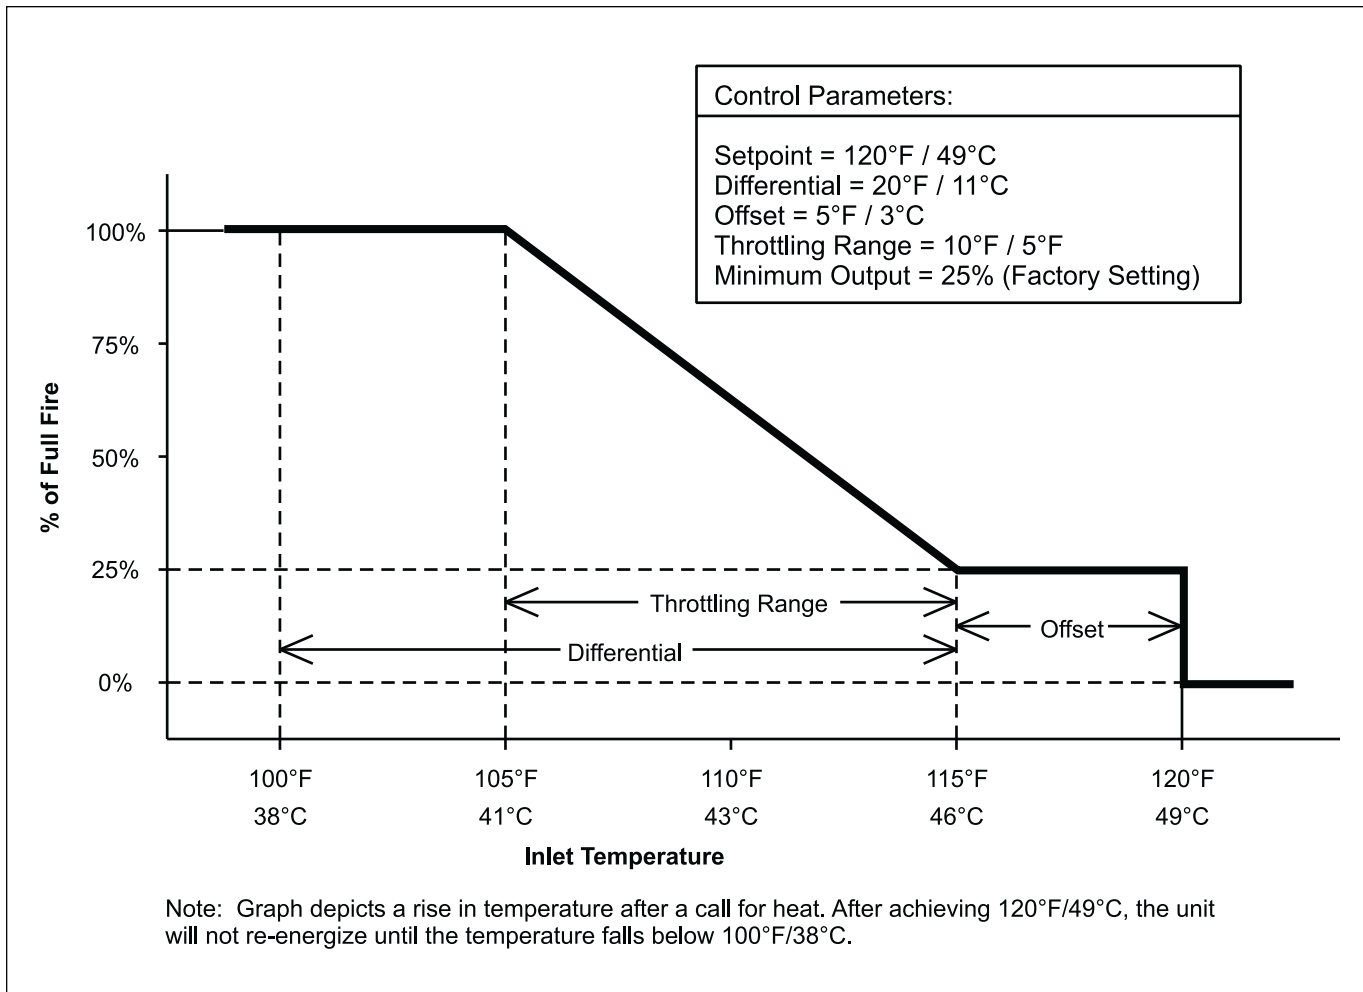
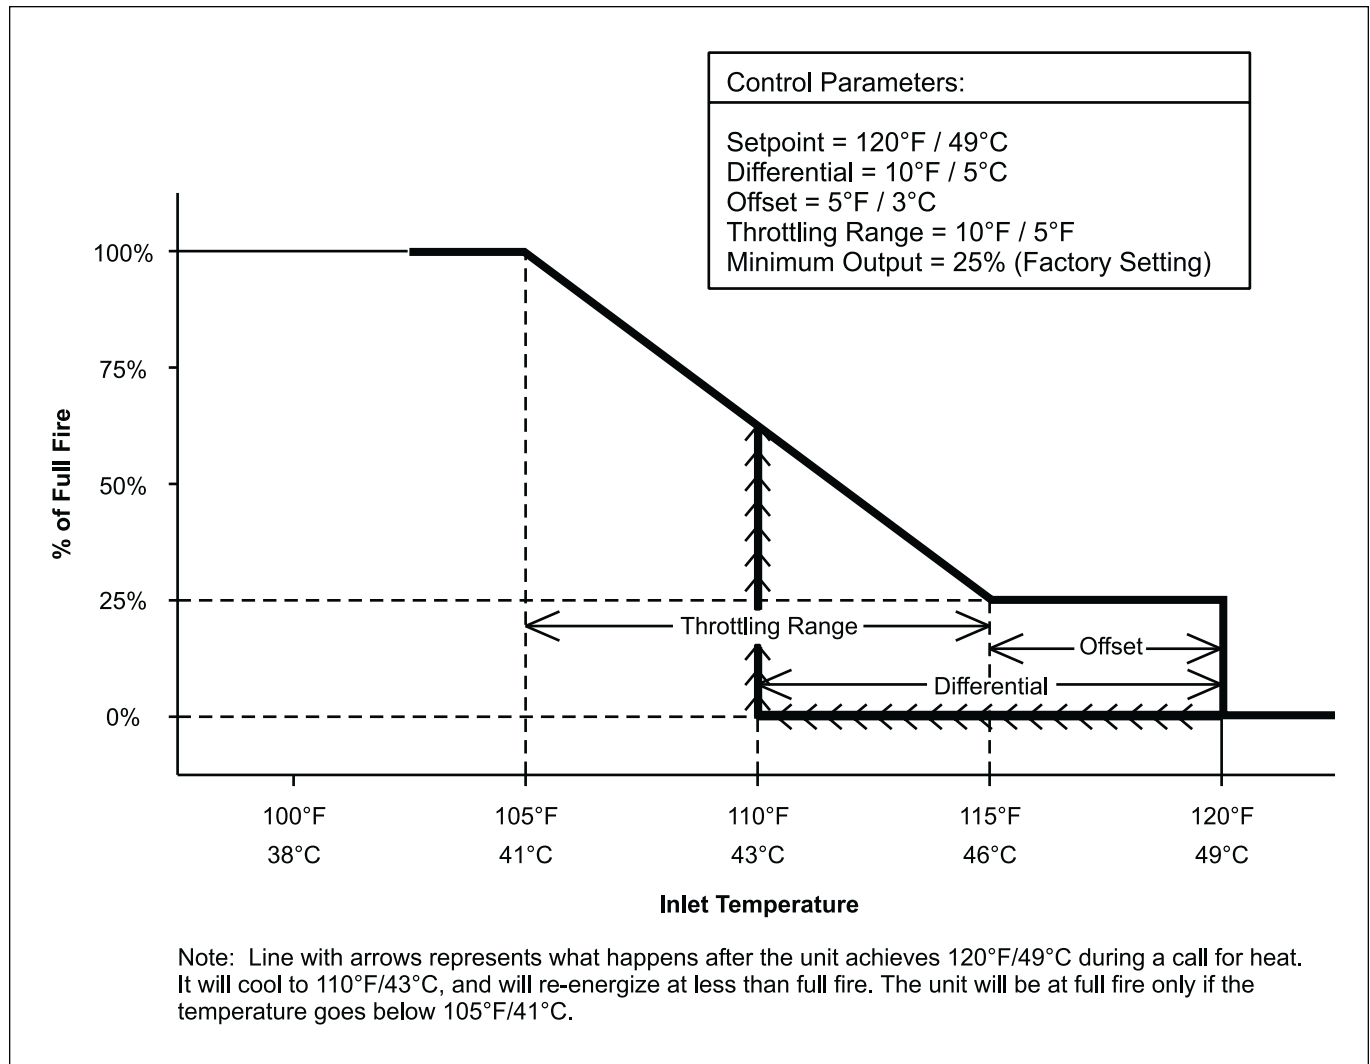

Figure 14. Control Parameter Graph.
Figure 15. Control Parameter Graph.
Important Note: These control parameters work together. Therefore, setting one parameter may have an affect on another. Figures 14, 15 and 16 show the relationships between these settings. Figure 14 follows the examples that are shown in the following sections, and Figures 15 and 16 are examples of how the parameters can interfere with each other.
The offset can be adjusted between 0°F and 30°F (0°C and 17°C) by removing the cover of the S350P control and adjusting the Offset dial (see Figure 14).
The throttling range is adjustable between 2°F and 30°F (1°C to 17°C). The range can be set by removing the cover of the S350P control and adjusting the “THROT RANGE” dial (see Figure 14).
The minimum output setting of the controller is 0% of full fire. However, the minimum output of the Brute Magnum is limited to 25% of full fire by the fan speed controller, to ensure proper operation of the Brute Magnum. If a minimum desired output is higher than 25%, the setting can be adjusted up by removing the cover of the S350P control and adjusting the Min Output dial (see Figure 14). Turning the dial clockwise increases the minimum output. In most cases, this setting should be left as shipped from the factory.
The proportional control used on the Brute Magnum has internal circuitry that helps to minimize overshoot that can sometimes be associated with proportional plus integral (PI) controls. There are three field-selectable integration constants (slow, medium and fast), and an off position on the proportional control, which are selected with the dipswitches on the control (see Figure 14). In most cases, this setting will not need to be changed